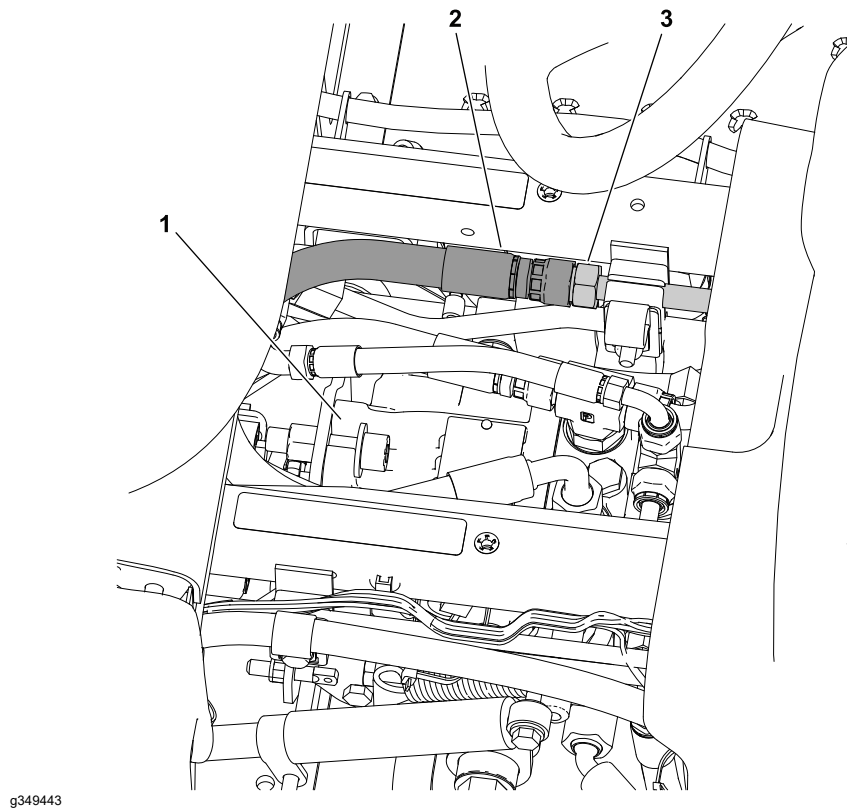

Figure 47
- B. Thoroughly clean the connection between the hydraulic hose and tube shown in Figure 47, then disconnect the hydraulic hose from the tube.